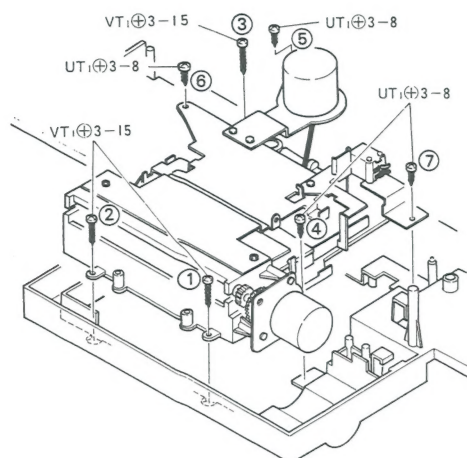

Fig. 9
- 5) Remove the 7 screws. (See figure 9)
- 6) When reinserting the mechanism block, replace the 7 screws in their numerical order as shown in figure 9.